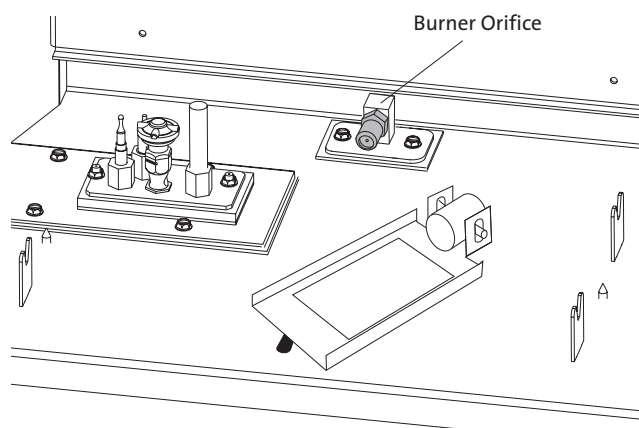

Figure 14. Main orifice location with burner skirt and burner assembly removed.
- Loosen the wingnut on the Air Shutter Stem, located under the center of the firebox floor, and push the stem as far as it will go toward the back of the insert. Disengage the burner assembly with the Air Shutter by lifting it up and back, out of the firebox. Swing the Air Shutter out of the way to access the burner orifice. Fig. 14.